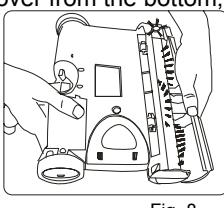

Fig. 8
4. Periodically remove the brush cover on the front of the cordless sweeper and remove any build up of lint, hair or fiber on the rotating brush. To remove the cover – grip the cover from the bottom, pull out and upward until the cover unlocks from the side slots and tabs located on the top of the sweeper. (Fig. 8)